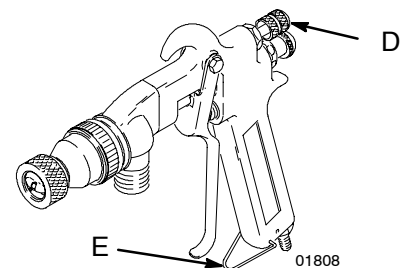

Fig. 2
Fig. 2. Air flow is controlled at the gun. During priming, turn the gun air control valve (D) in fully to prevent air from mixing with the fluid, which allows you to check and adjust the fluid flow accurately. (When this valve is closed the air exits the rear of the gun.) During operation, open the air control valve to introduce air at the correct volume for the desired spray pattern. The gun also has a trigger bail (E) to reduce operator fatigue when spraying large surfaces.